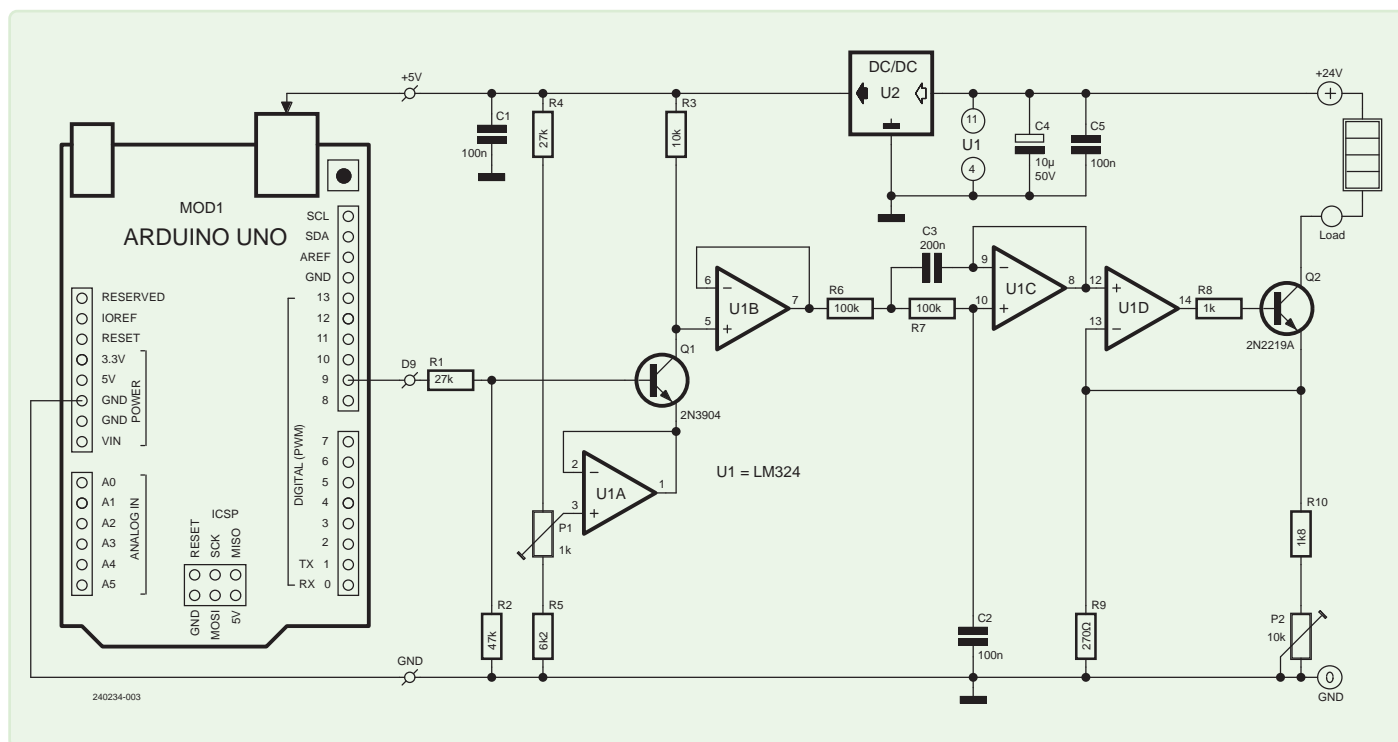

Figure 2: Schematic diagram of the 4...20 mA PWM current generator.
**Figure 2** shows the complete diagram of the circuit. To obtain pulses with a voltage span ranging from 1 V to 5 V, I had to use a 1 V source realized with U1A and Q1 transistor that works practically as a switch. The transistor Q1 inverts the PWM signal, so the number of the PWM duty-cycle must be complemented in software. The operational amplifier U1B operates as a separator; the filter uses U1C.